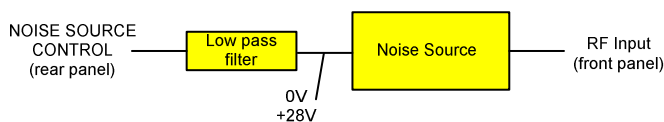

Fig. 2-73: Preparation for calibration
1. Connect the noise source to the RF input of the R&S FSL (see Fig. 2-73).
3. Provide the voltage supply for the noise source by connecting it to the +28 V connector of the R&S FSL (labeled NOISE SOURCE CONTROL on the rear panel of the instrument) via a coax cable and the lowpass filter. Connect the lowpass filter between the noise source itself and the NOISE SOURCE CONTROL connector of the R&S FSL as shown in Fig. 2-73.